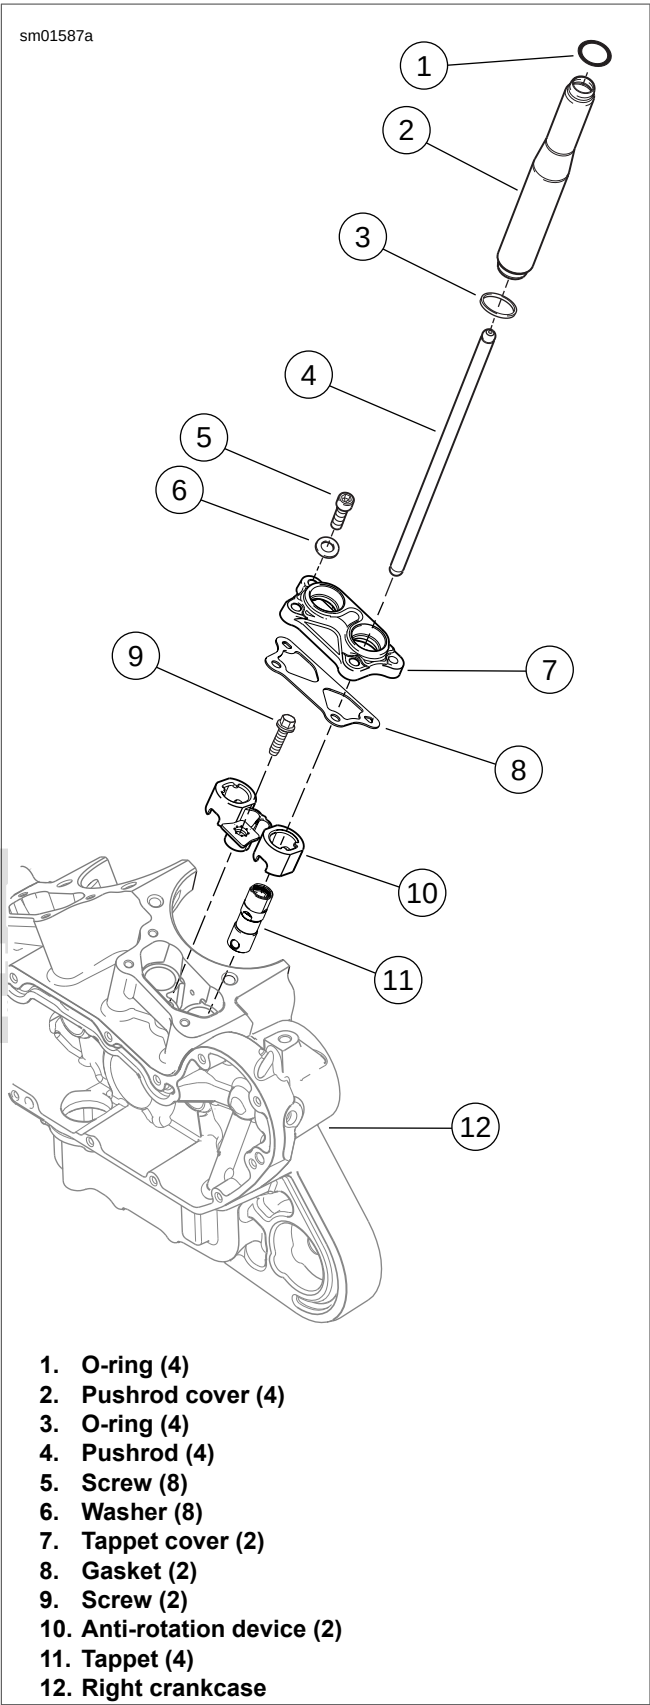

Figure 3-93. Middle Valve Train Components
1. See Figure 3-93. If anti-rotation devices (10) and tappets (11) have been removed, install the tappets. See 3.22 BOTTOM END OVERHAUL: ASSEMBLY, Tappets.
- 3. See Figure 3-93. Install tappet covers (7) with **new** gaskets (8). Secure with screws (5) and washers (6). Tighten to 90-120 **in-lbs** (10.2-13.6 Nm).
- 4. Install **new** O-rings (3) in recesses in tappet covers. Press pushrod covers (2) into O-rings.
- 6. Slide intake and exhaust pushrods (4) down inside pushrod covers until they rest on seat at top of tappet (11).